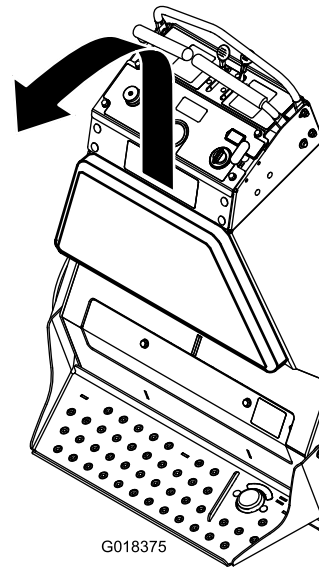

Figure 5
3. Loosen the 4 bolts inside the frame securing the rear pad to the unit. Lift the pad up and back to remove it (Figure 5).